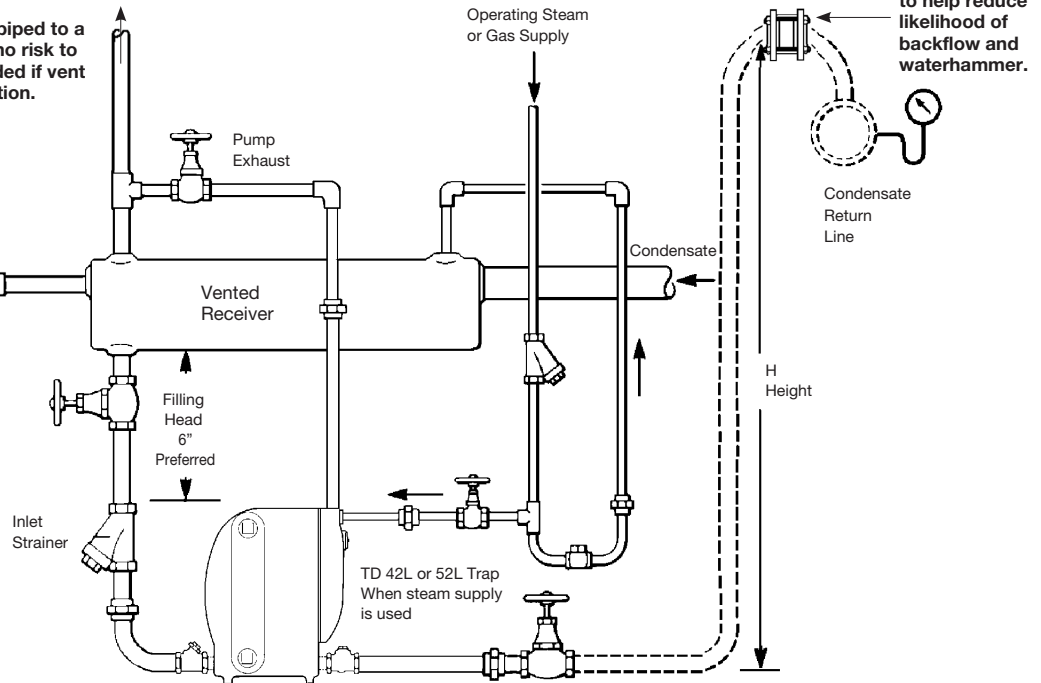

Figure 2
Installation – Vented Systems (Fig. 2)
1. Install the pump physically below the receiver to be drained with the exhaust connection (10) vertically upwards. Pump should be installed with the recommended filling head (the vertical distance between the top of the pump and the bottom of the receiver) as shown in Fig. 2. For other filling head variations, see the capacity table on TI-5-202-US.
2. To prevent equipment flooding during the pump discharge stroke, a vented receiver should be installed in a horizontal plane ahead of the pump as shown in Figure 2. For proper receiver sizing, refer to the table shown below. All inlet line fittings must be fully ported.
If desired, receiver overflow piping can be installed as shown in Fig. 2 and piped to a suitable drain. The piping must form a loop type water seal at least 12” deep immediately after the receiver.